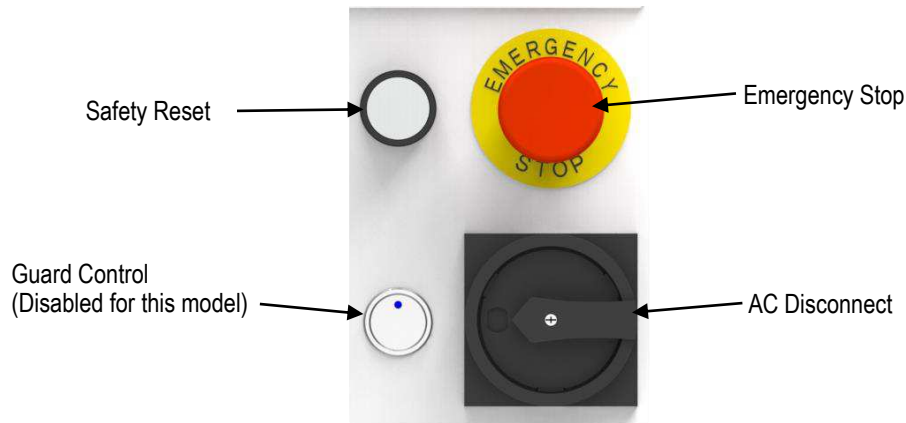

Figure 14
E. Additional Controls (reference Figure 14)
The three basic modes of operation for this machine are: Full-Cycle, Split Cycle, and Jog (reference Figure 14).
The speed of the motor is adjusted using the Decrease Speed and Increase Speed buttons on the membrane keypad (reference Figure 14). The Decrease and Increase buttons are used to adjust the motor speed for Full-Cycle, Split Cycle, and Jog modes. The speed setting in Full and Split Cycle modes is independent from the speed setting used in the Jog mode. Both speed settings are retained in memory by the CPU / motor controller. During Full and Split Cycle modes the last set motor speed is on the display. When the Jog button is pressed, the display will change to show the last set Jog mode speed. The Jog mode speed will continue to be displayed until the footswitch is pressed to change to Full or Split Cycle modes.